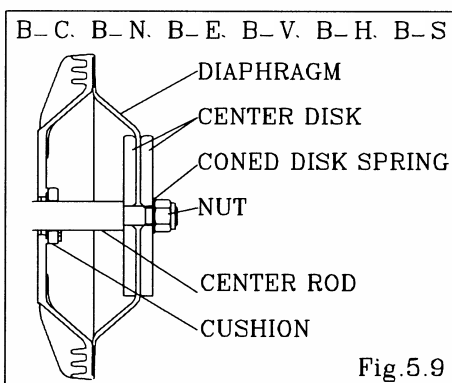

Fig. 5.9
- Fix a double nut to one end of the center rod and take the diaphragm and center disk off the opposite end. [Fig.5.9] Be careful not to scratch or score the center rod.
- Insert the cushion (except with the NDP-80). (cf. Fig.5.9)
- Draw the center disk to one side (exclude B\_H, B\_S type cf. Fig. 5.9).